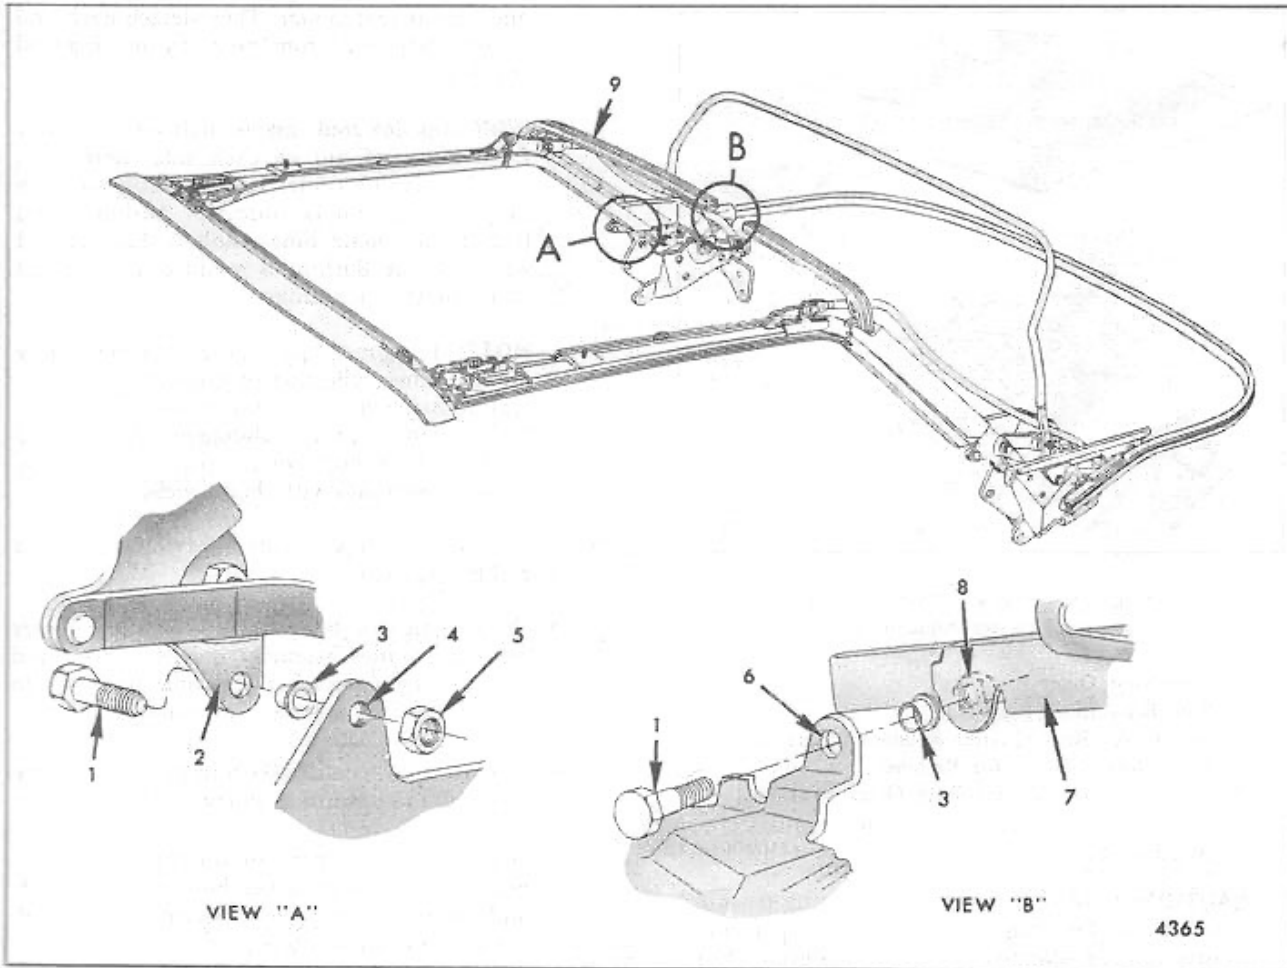

Fig. 7-Center Bow Assembly and Rear Trimstick Attachment
- A. With front roof rail several inches above windshield header, remove lower rear bolt (Item "B", Fig. 7) securing trimstick to main hinge on each side. Bolt is removable toward inside of body. Welded anchor nut remains on trimstick.
- C. With top lowered about half-way, remove front bolt and nut on each side (Item "A", Fig. 7) securing center bow assembly to main hinge. Bolt enters through bushing and threads into main hinge. Bolt is then secured with lock nut. Bushing is retained in outer rail and contacts main hinge.
- B. Raise top several inches above windshield header. Install bushing in main hinge, align trimstick to main hinge attaching holes and install trimstick attaching bolts (View "B", Fig. 7). Use care to avoid dropping bolt. To avoid losing bolt, block openings at wheel-house with several shop towels.
- C. Lower top half-way as shown in Figure 8. With bushing properly positioned in each outer rail, install attaching bolts (View "A", Fig. 7) securing outer rail to main hinge. Each bolt threads into hinge and is secured with lock nut.